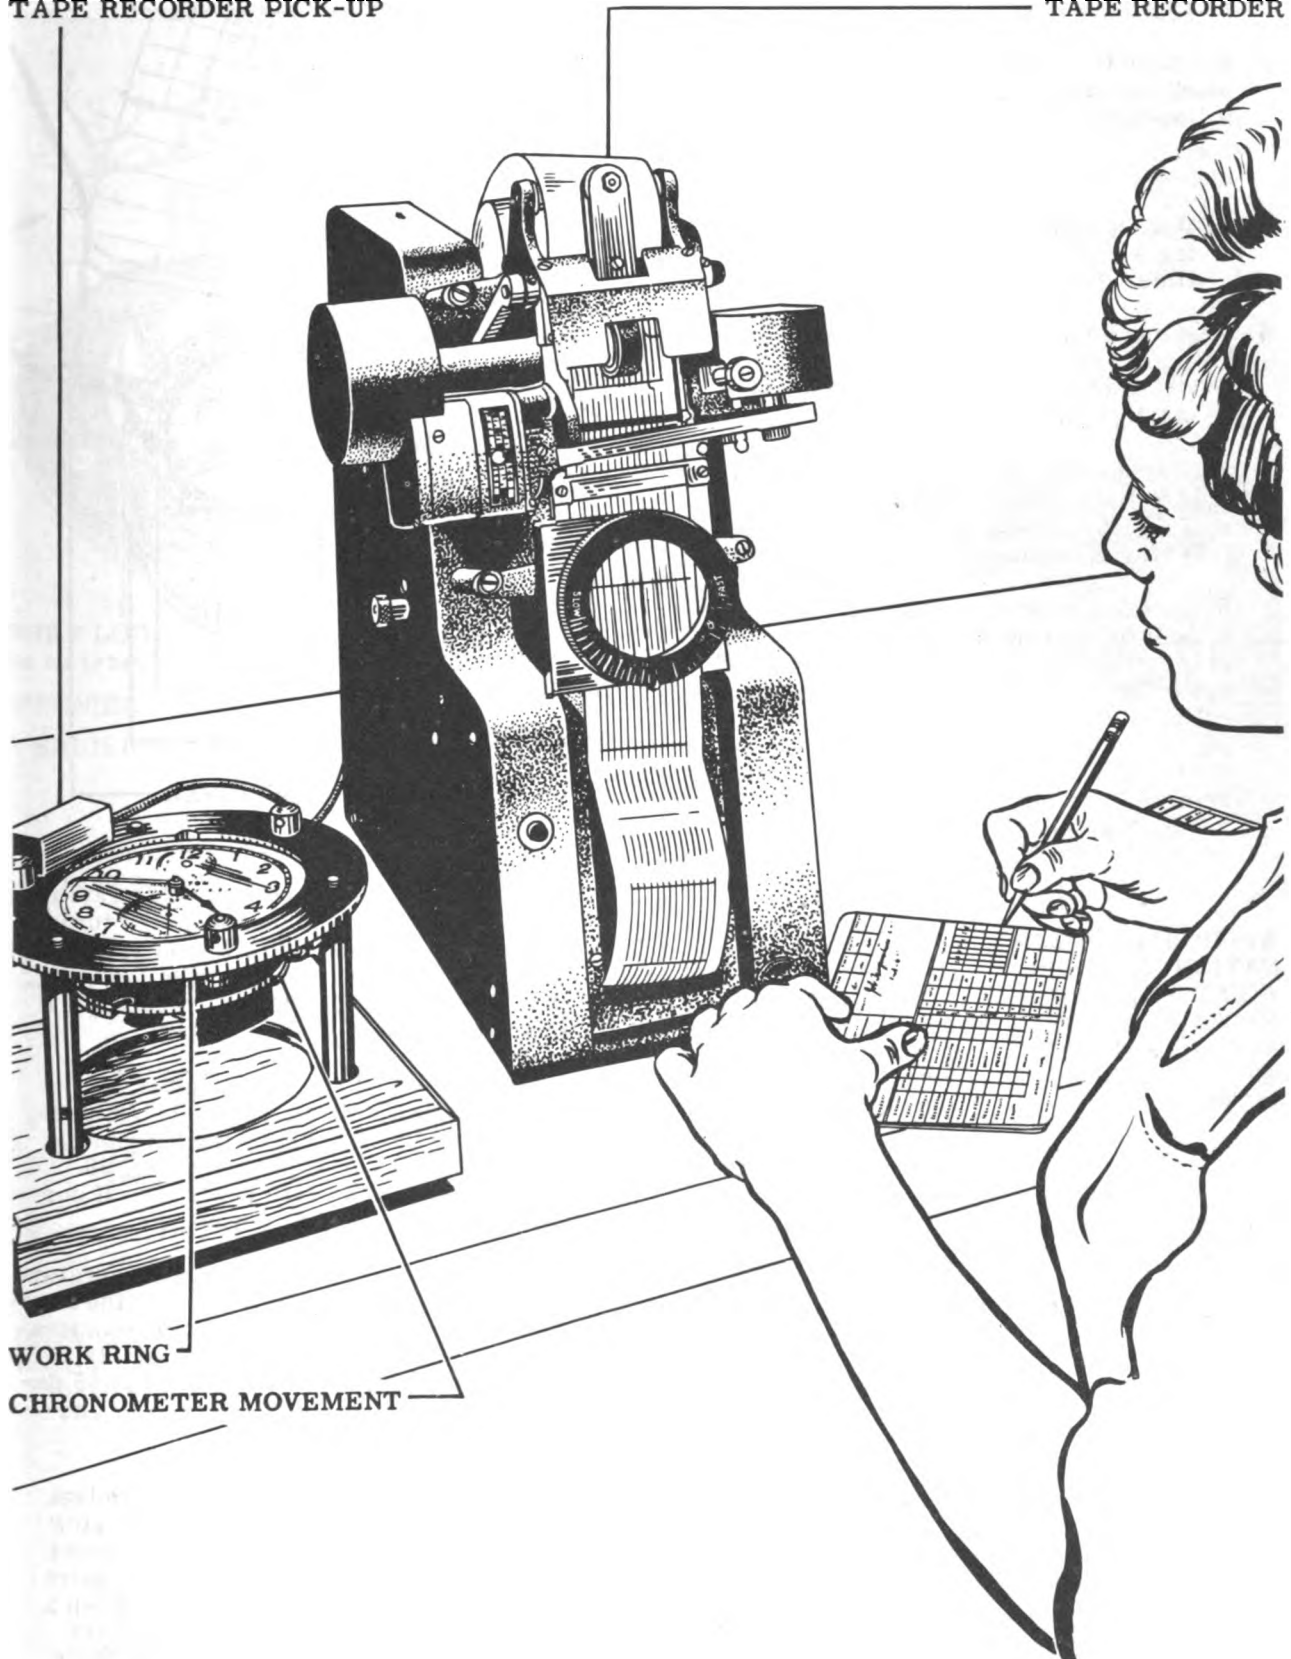

Figure 97
6. Regulate to within ± 0.5 seconds per day, using continuous tape recorder reading to 0.1 seconds. See Fig. 97.